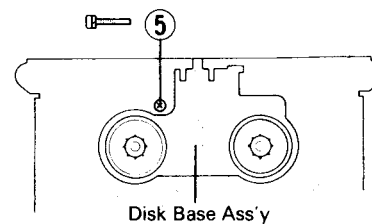
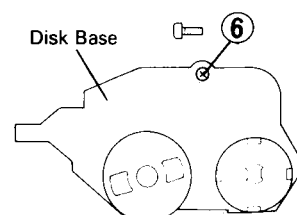

Fig. 6-8
Fig. 6-9
Remove two screws ⑤ and ⑥ securing the disk base unit. (Fig. 6-8, Fig. 6-9)